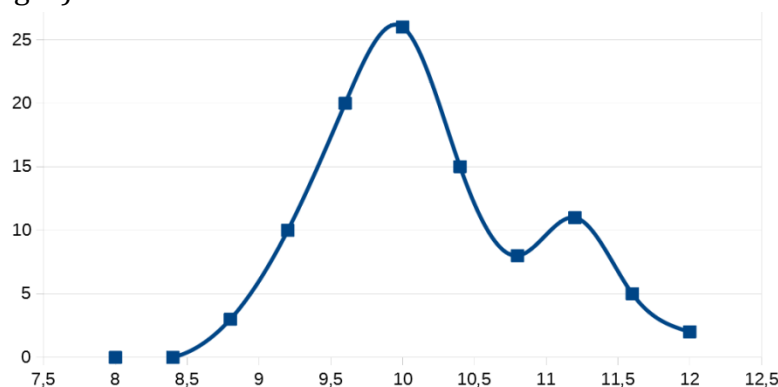

Fig. 4. Graph of the histogram.
- 4.12. Plot a plot of scatter, smooth values of FREQUENCY versus classes (Fig. 4).